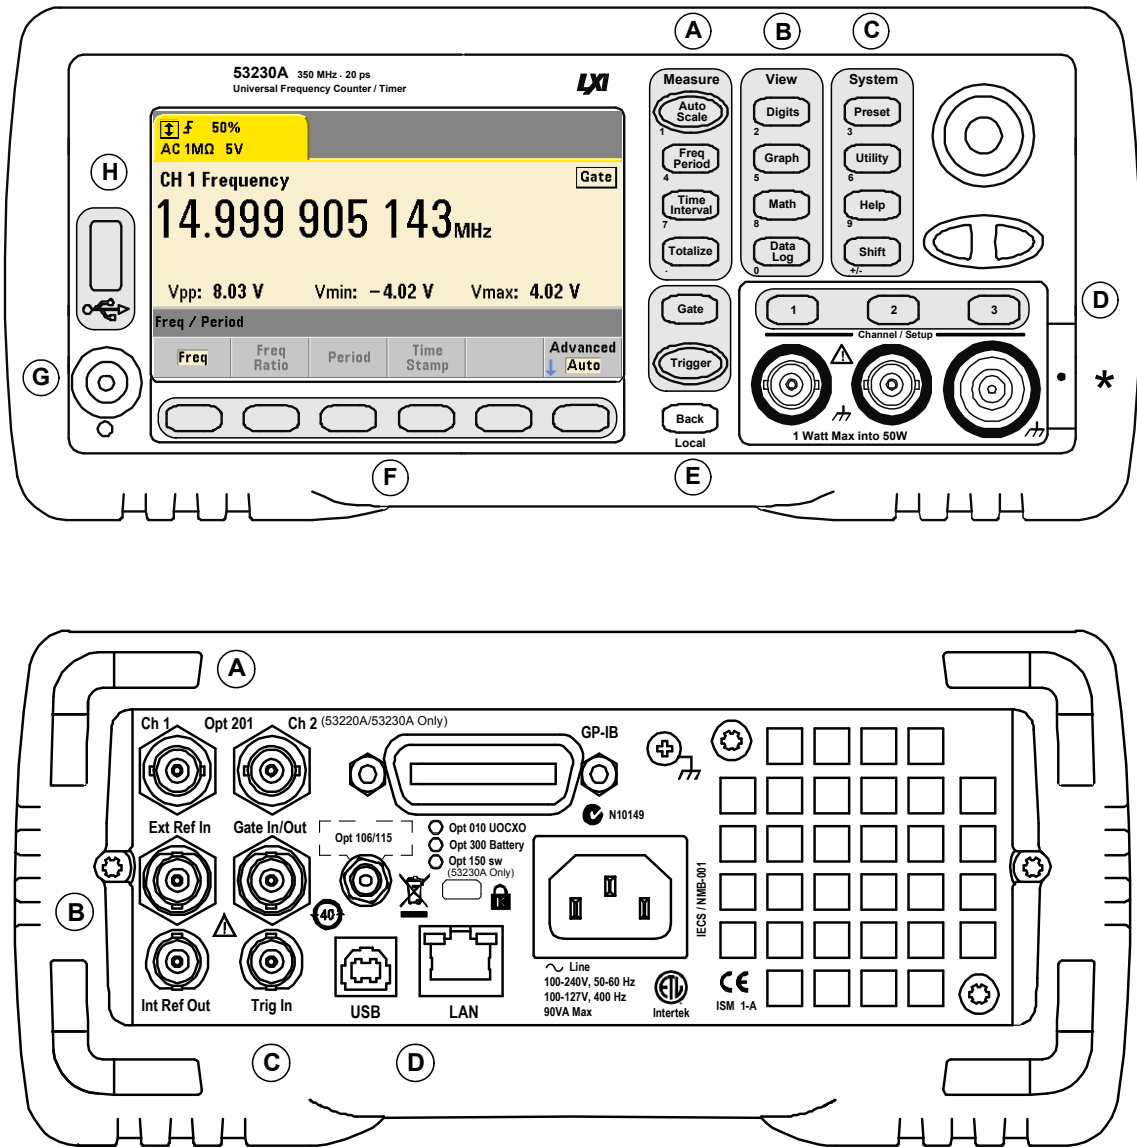

Figure 1-1. The 53220A/53230A Universal Frequency Counter/Timer.
Figure 1-1 shows the front and rear panels of the Keysight 53230A 350 MHz Universal Frequency Counter/Timer. The 53220A and the 53230A are dimensionally identical and available with the same product options - with the exception of Pulse Measurement Firmware Option 150 available with the 53230A only.
**D. Channel Keys** - select the input channel and displays the soft key menu used to configure the input signal path. Note that Figure 1-1 includes Channel 3 Option 106 / 115. Signal path configuration is covered in **Chapter 4**.
The 53230A rear panel shown in Figure 1-1 includes product Option 201 (parallel rear panel inputs) and GPIB interface. The rear panel terminals are briefly described below.